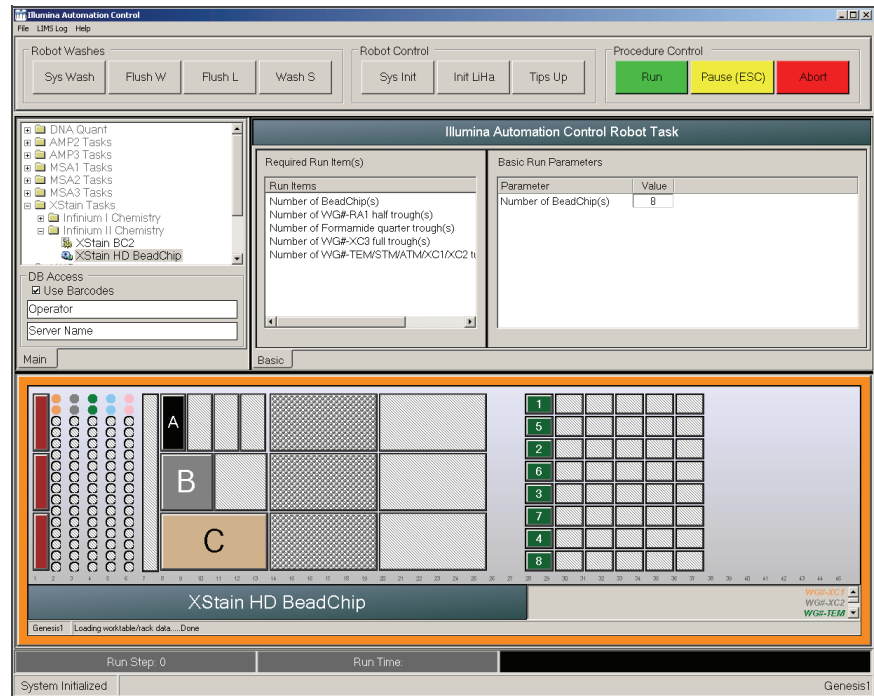

Figure 175 XStain HD BeadChip Screen
- Place a quarter reservoir in the reservoir frame, according to the robot bed map (Figure 175), and add 95% formamide/1 mM EDTA as follows: